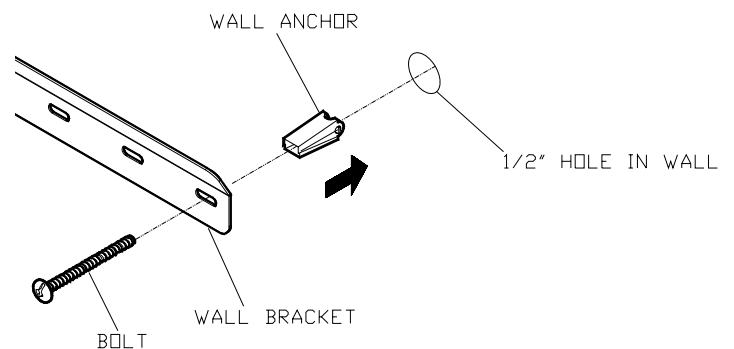

FIGURE 2
13. Insert the wall anchor screws through the wall bracket and thread into the wall anchors. The screws should extend beyond the wall anchors. (FIGURE 2)
14. Squeeze the wall anchor together and insert the wall anchors into the $\frac{1}{2}$ " holes in the wall. Tighten the screws. (FIGURE 2)